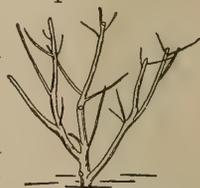

Fig. 96, Low
- b. Fig. 96 shows a well pruned tree the second season after it was planted.